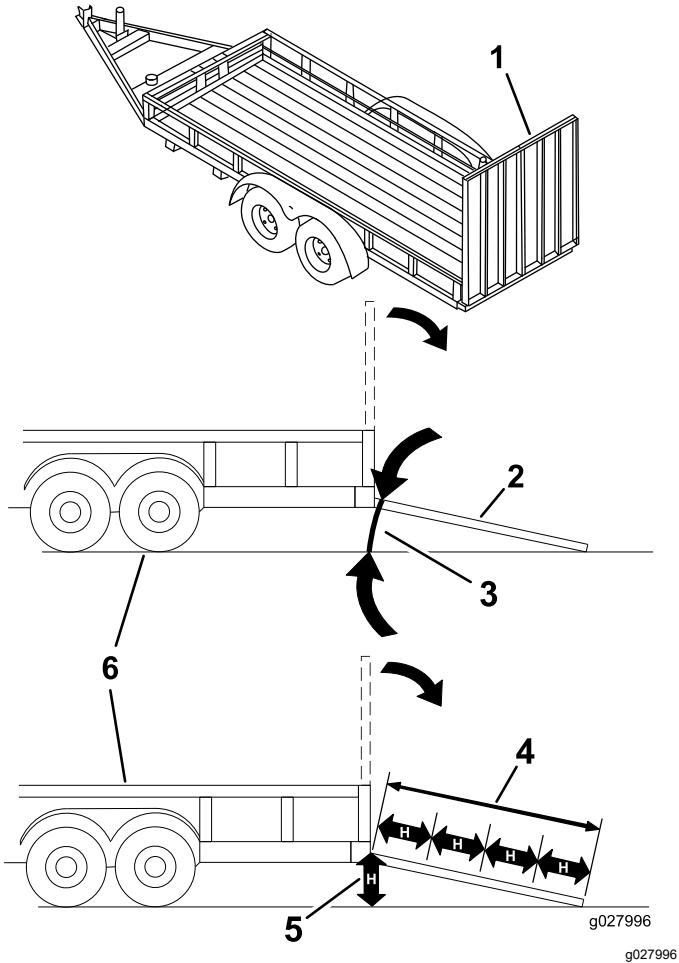

Figure 37
**Loading a machine onto a trailer or truck increases the possibility of tip-over and could cause serious injury or death (Figure 37).**
3. Lower the ramp, ensuring that the angle between the ramp and the ground does not exceed 15 degrees (Figure 37).
1. Lower the ramp, ensuring that the angle between the ramp and the ground does not exceed 15 degrees (Figure 37).